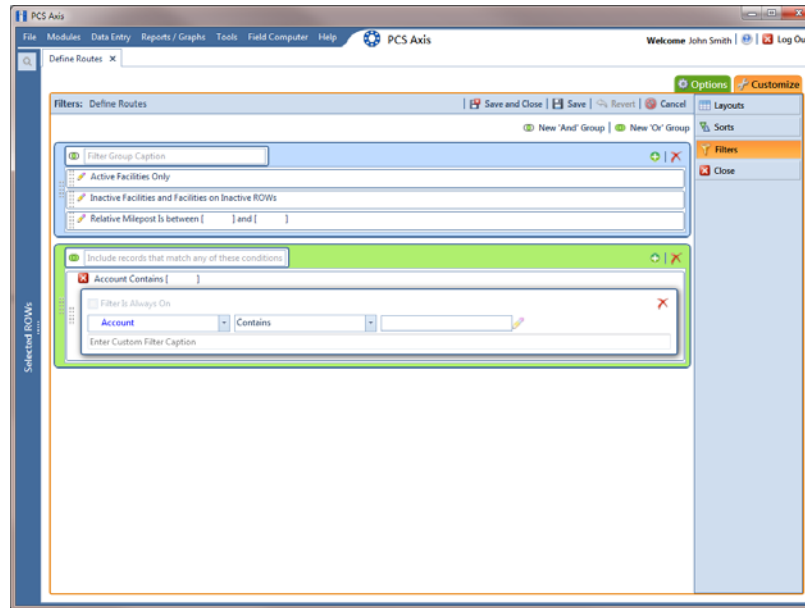

Figure 7-51. Filters
- 4 Click  **New 'Or' Group** to open a filter properties group box (Figure 7-51).